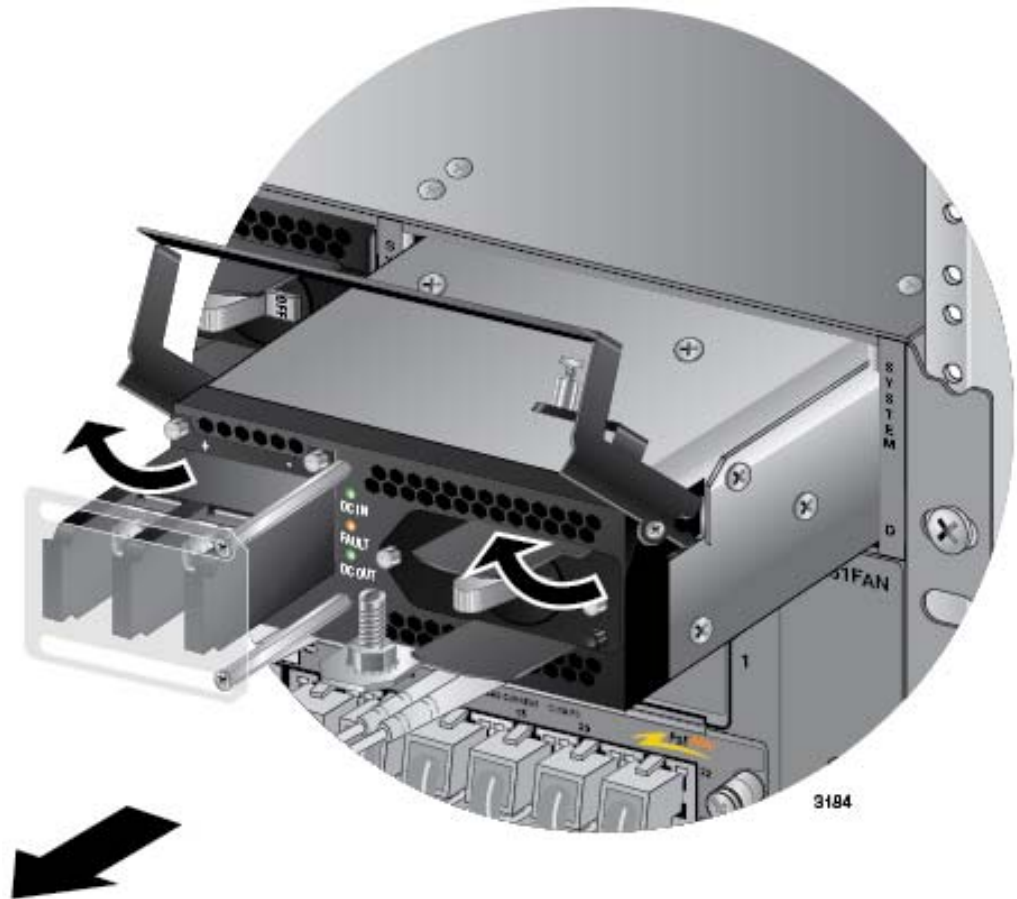

Figure 180. Lifting the Locking Handle and Removing the Power Supply
11. Lift the locking handle and slide the power supply from the chassis. Refer to Figure 180 on page 303.